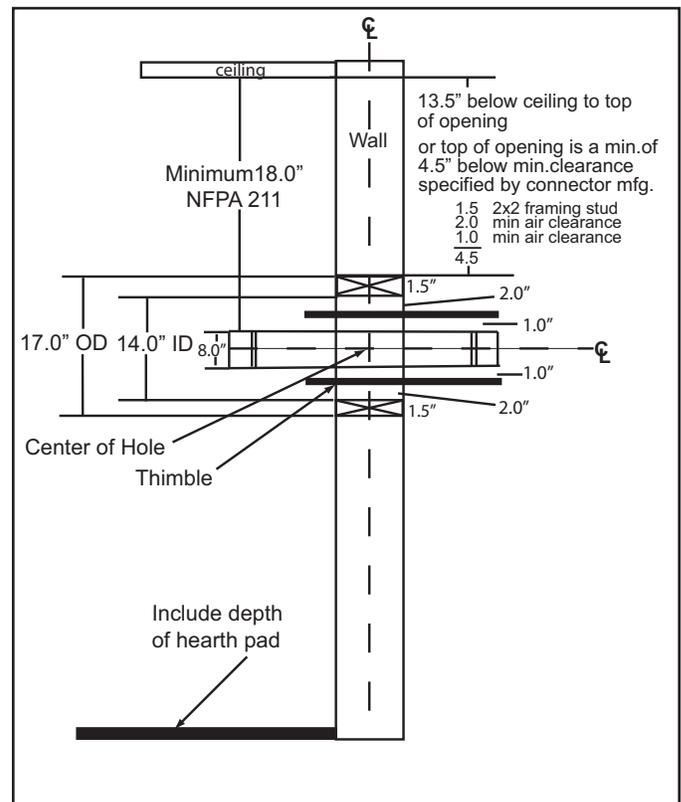

Figure 38.1 - Thimble Construction
- Top of wall opening is a minimum of 13-1/2 inches (343mm) from ceiling or 4-1/2 inches (114mm) below minimum clearance specified by chimney connector manufacturer. NFPA 211 minimum vertical clearance of 18 inches (457mm) from chimney connector and ceiling or minimum recommended by chimney connector manufacturer. **Figure 38.1.**
1. Open inside wall at proper height for the chimney connector to enter the masonry chimney. **Figure 38.1.**
3. Construct a 17 inch x 17 inch (432mm x 432mm) outside dimension frame from 2 x 2 framing lumber to fit into wall opening. Inside opening of frame should be no less than 14 inch x 14 inch (356mm x 356mm). **Figure 38.1.**